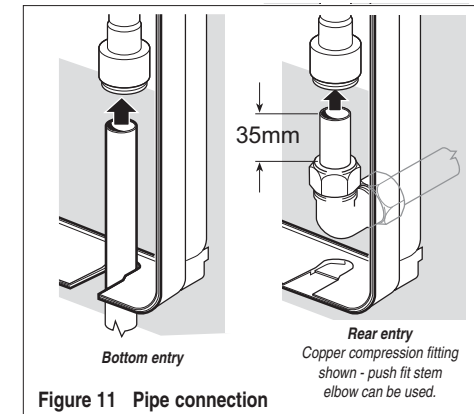

Figure 11 Pipe connection
6.9 The handwash has been designed for a 15mm water pipe using the pushfit connection - see Fig. 11.
6.17 Connect the cold water supply pipe to the inlet of the handwash, this is a push fit - see Fig. 11.